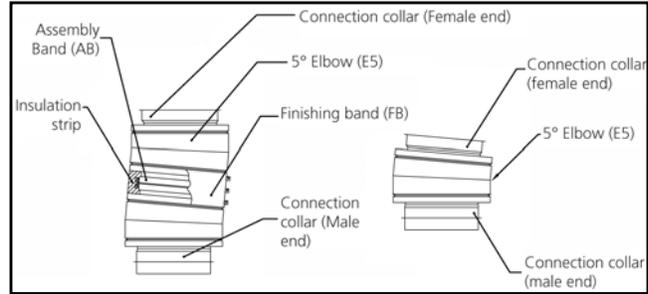

Figure B-8 - 5° Offset using 2 x 5° Elbows
5. The length of offset, if one is necessary, is determined by strength considerations. The maximum dimension between supports, given as the "MHS" dimension in Section A of these instructions, is applicable to all horizontal and sloped orientations. (See Fig.B-8)
11. Roof Support (RS), Wall Support (WS), Wall Guide (WG) may be used in a variety of ways for offset support to achieve the structural stability of the vent system. Preferred methods of using supports are shown in Section C.
12. Re-supports such as those shown in Fig.B-8 must be securely anchored to walls, posts, or locally fabricated rigid framework. This framework must be designed to assure stability of attached supports, such as Anchor Plate (AP) supports and Wall Supports (WS).